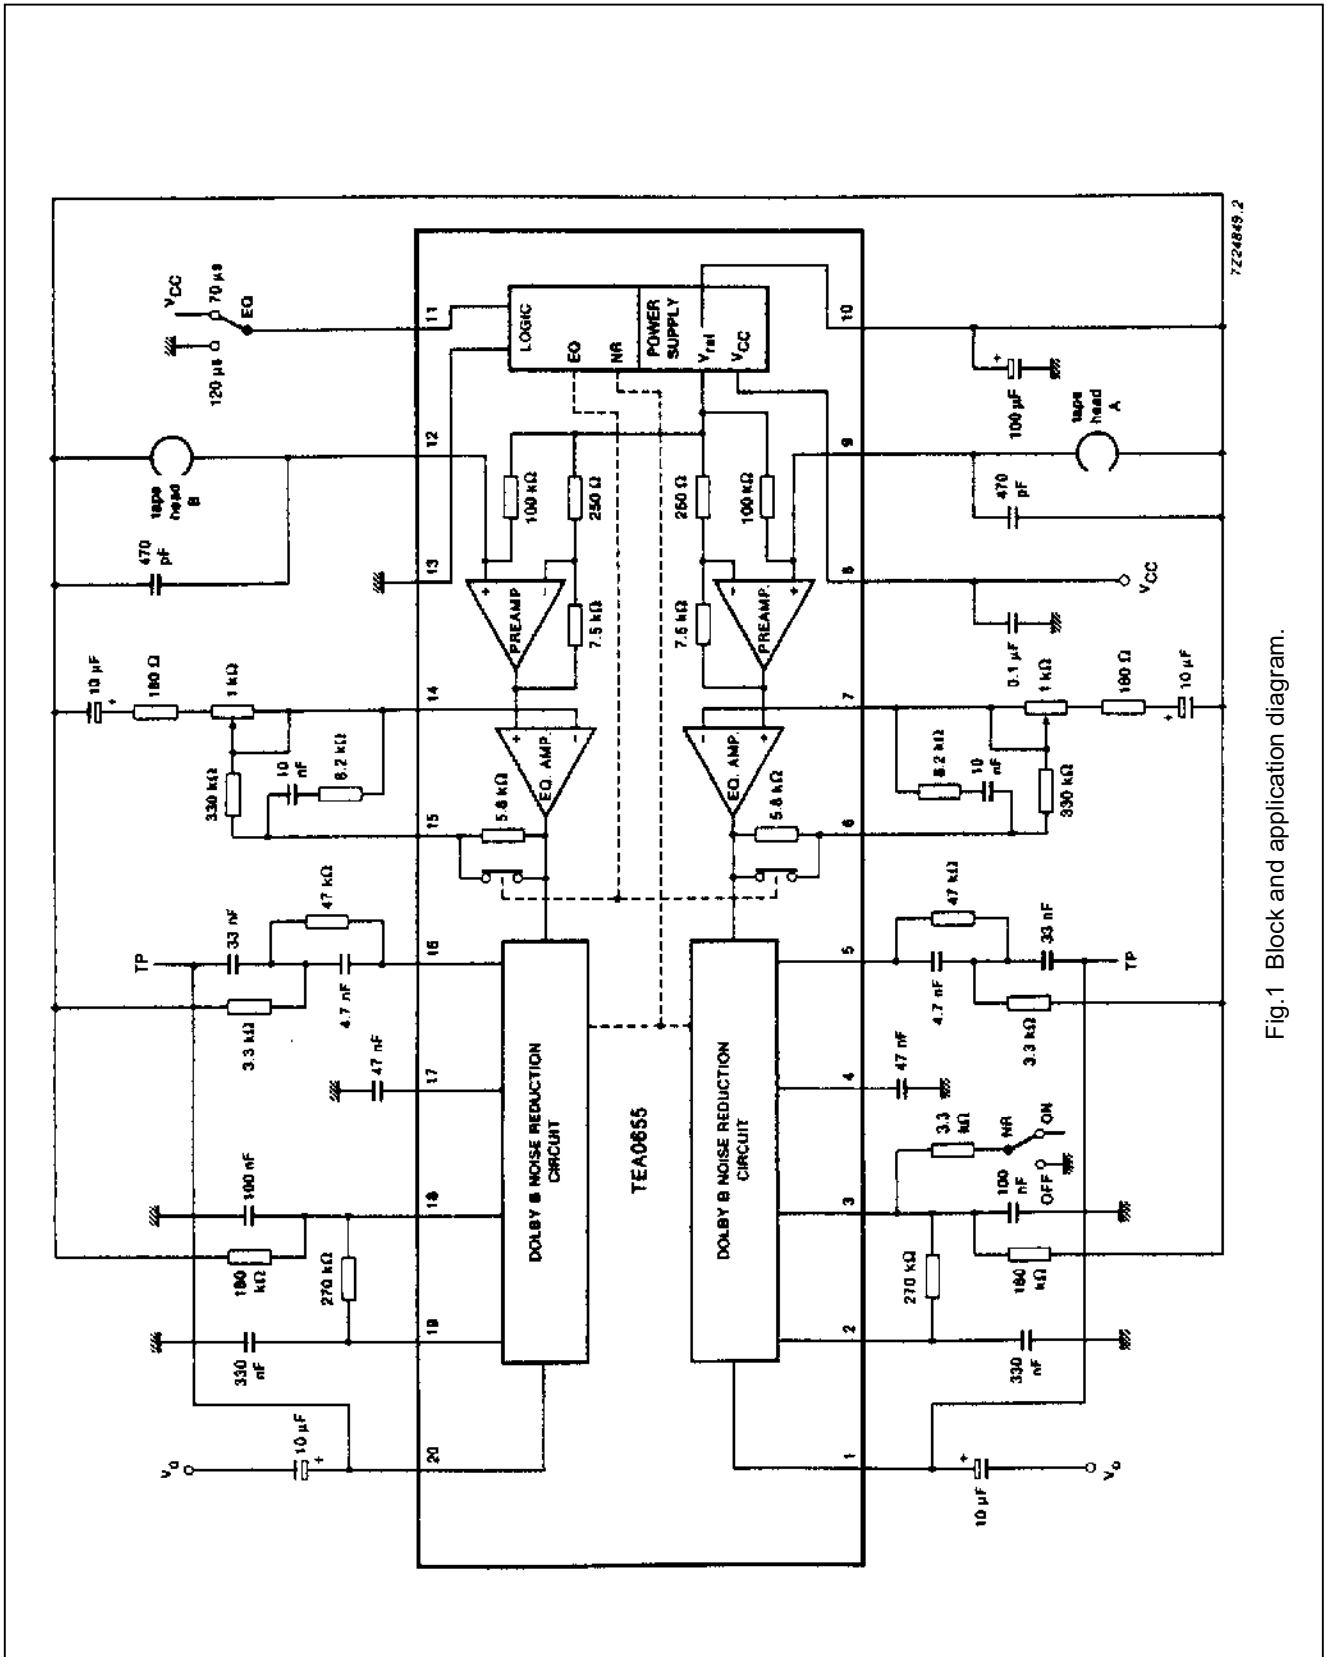

Fig.1 Block and application diagram.
Noise reduction is enabled when pin 3 is open-circuit and disabled when pin 3 is connected to GRD (pin 13) via a 3.3 k Ω resistor (see Fig.1).
$V_{CC} = 10\text{ V}$; $f = 20\text{ Hz}$ to 20 kHz ; $T_{amb} = +25\text{ °C}$; all levels referenced to 387.5 mV RMS (0 dB) at test point (TP) (pin 1 or 20); test circuit Fig.1; NR ON; EQ switch in the $70\text{ }\mu\text{s}$ position; unless otherwise specified.
1. Equals the corresponding decode mode cut with reference to test point level, see Fig.1.